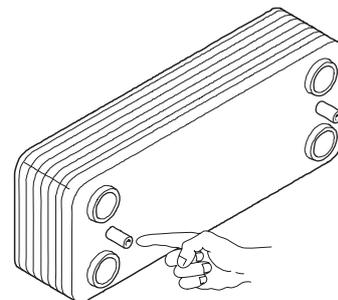

Figure 6.5
**Warning:** When reassembling the exchanger be sure to put the off center location/securing pin indicated in Figure 6.5 towards the left side of the boiler.